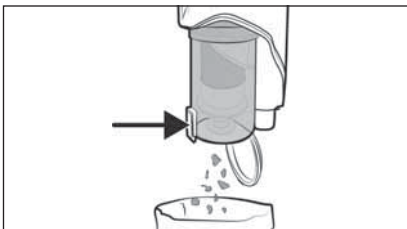

Fig. 16
- 1) Hold the dust container **6** in a waste bin and press the release button for the dirt container lid **7**. The dust container lid **8** opens and the contents are emptied into the waste bin (see Fig. 16). Then close the dust container lid **8**.